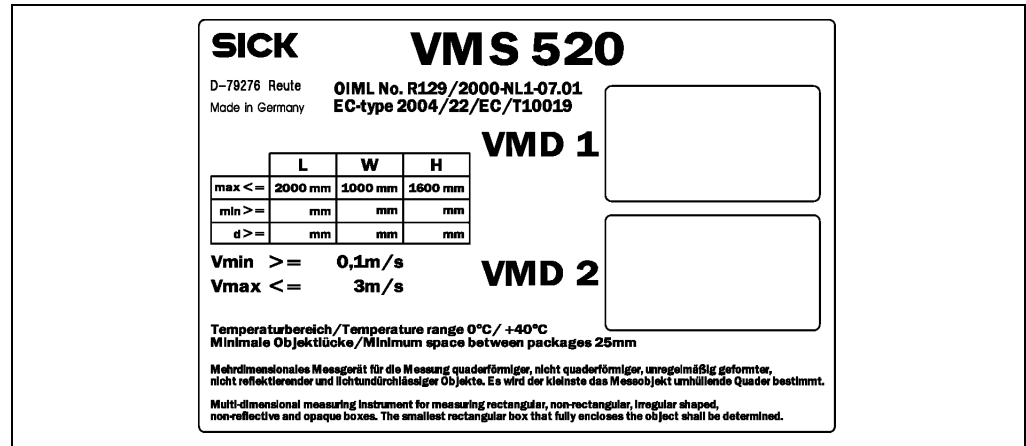

Fig. 10: Certification label for the VMS520
- After a thorough application check, scale intervals for length, width and height must be fixed. These scale intervals must be entered on the certification label included (see Fig. 10) in the “d>=” line in permanent ink. The certification label must be fitted to the system such that it can be seen by the operator and can be allocated to the volume measurement system.